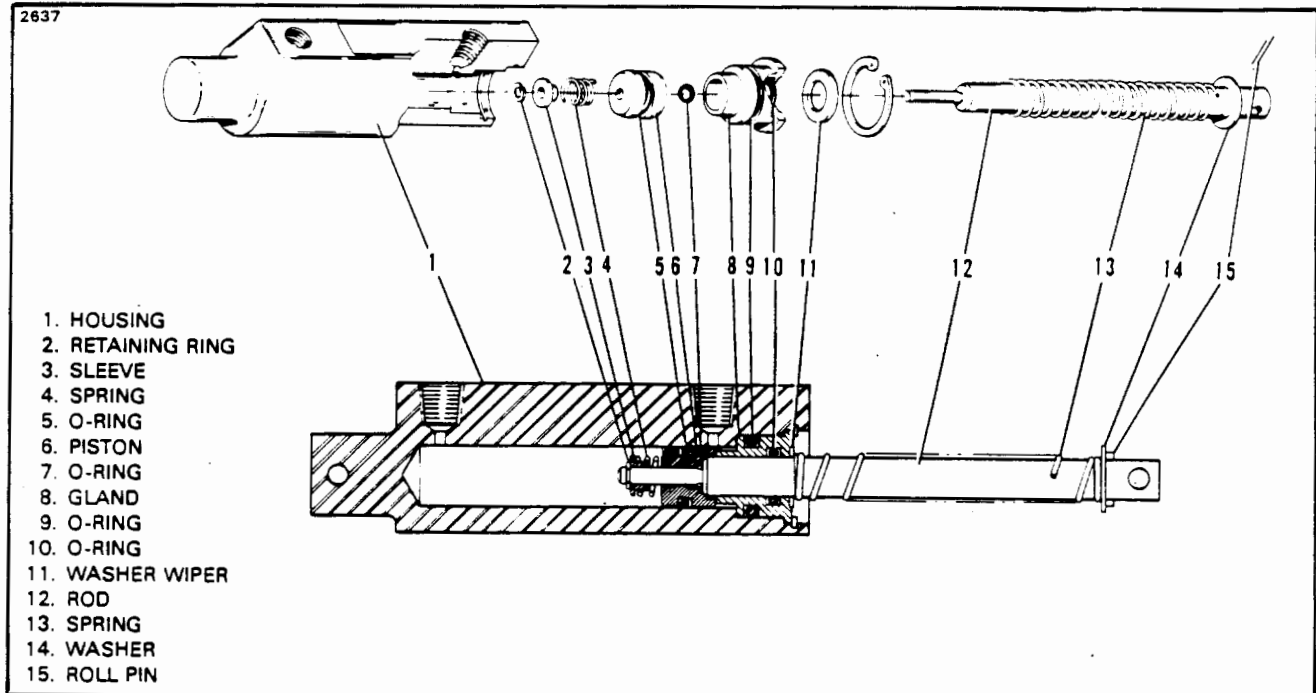

Figure 32-21. Brake Cylinder (10-30) (Toe Brake)
3. Cleveland cylinder number 10-30. (Refer to Figure 32-21.)